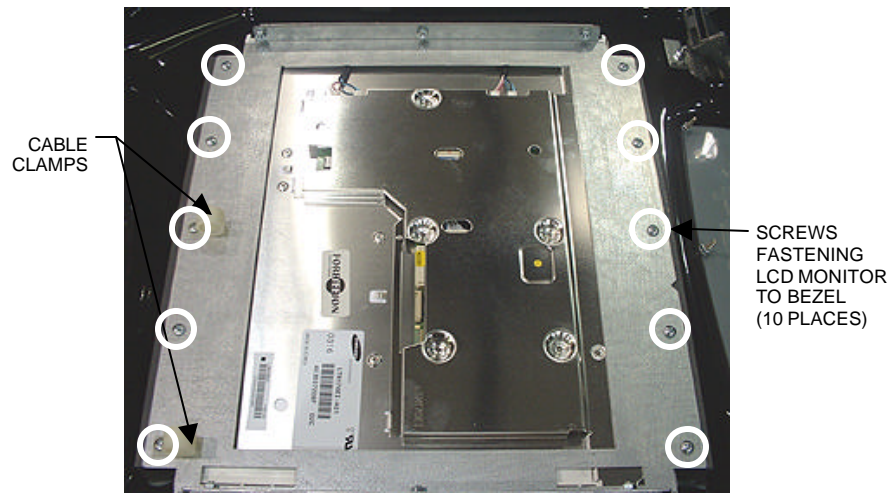
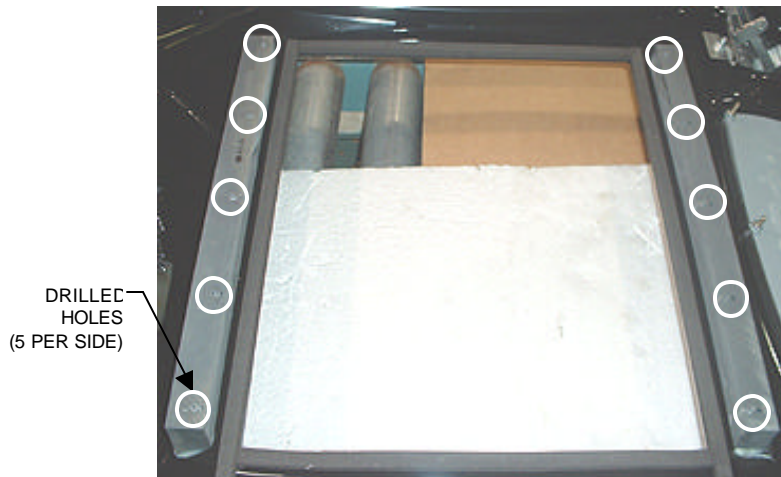

FIGURE 8 - FUSION WITHOUT ELECTRONICS BOX - UNDERSIDE OF MONITOR
FIGURE 9 - FUSION WITHOUT ELECTRONICS BOX -
6. Place the bezel assembly upside-down on a flat surface and remove the 10 screws fastening the LCD monitor to the bezel (remember which 2 screws also fasten cable clamps), then remove the monitor from the bezel. See Figure 8.
3. Place the new LCD monitor in the bezel (make sure it is not upside-down), lining up the screw holes on the face of the mounting frame with the larger, drilled holes on the plastic mounting pieces (see Figure 9), and fasten it with the 10 screws. Also replace the cable clamps in the appropriate screw holes. See Figure 8.